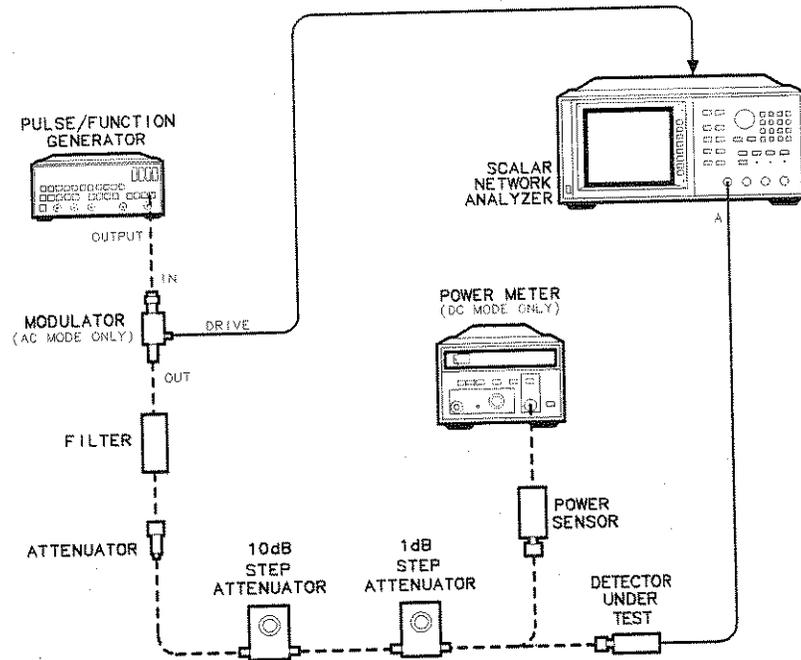

Figure 4-4. Absolute Power Accuracy Test Setup
1. Connect the equipment as shown in Figure 4-4. Do not connect detector to attenuator output. Do not use the modulator for this test (AC mode only). Switch all the equipment ON and allow 30 minutes warm-up time.
20. Connect equipment as shown in Figure 4-4. Connect the modulator's DRIVE INPUT to the analyzer's rear panel MODULATOR OUTPUT. Connect the DUT to the attenuated output. Switch the equipment ON and allow 30 minutes for warm-up.